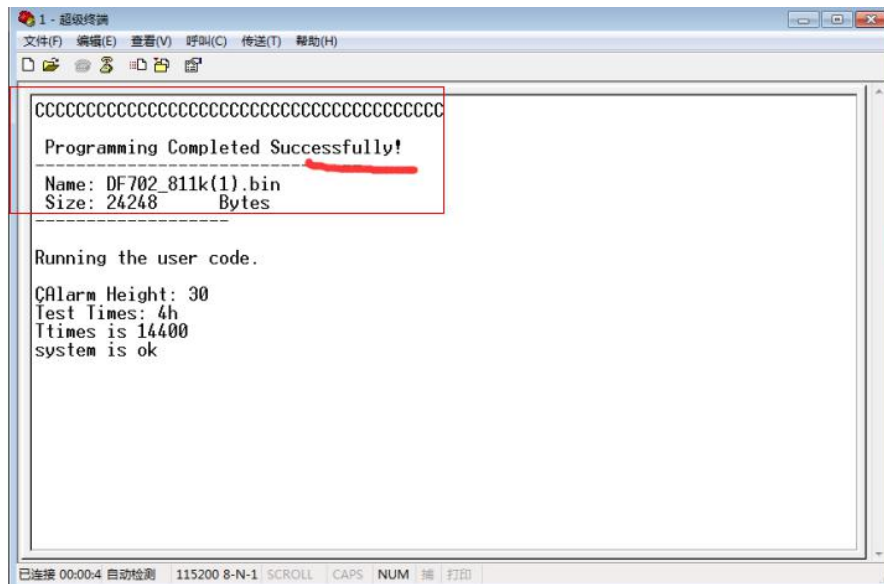

Figure7.16
7.4.8 File will be transfer and procedure is completed, you can see on the screen promised to upgrade successfully (Programming Completed Successfully) as shown in Figure 7.16.